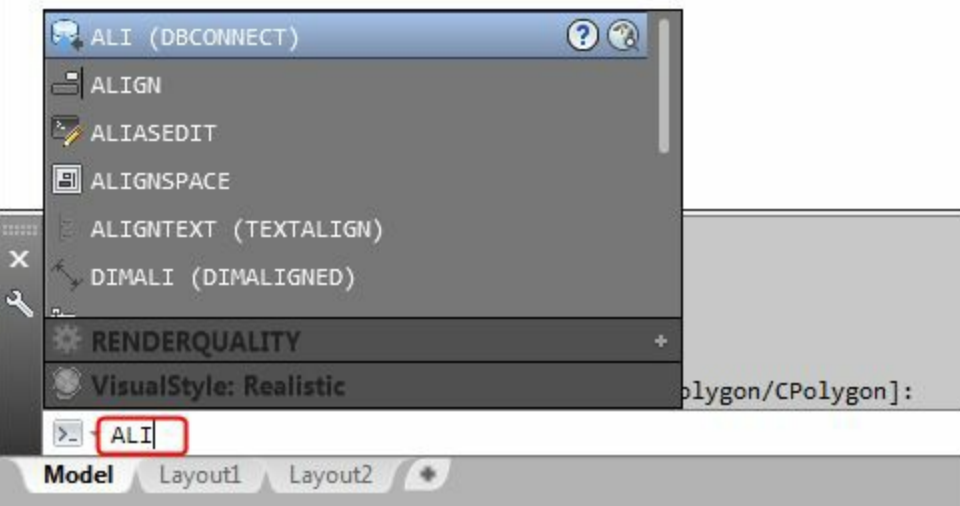

Figure-45. Command list
- Type a few alphabets of your desired command, a list of commands relevant to your specified alphabets will be displayed; refer to Figure-45.